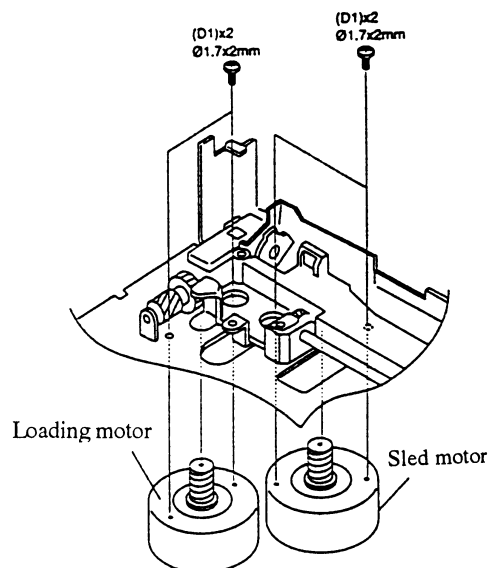

Fig.4
- Sled motor/Loading motor take off (refer to Fig.4)